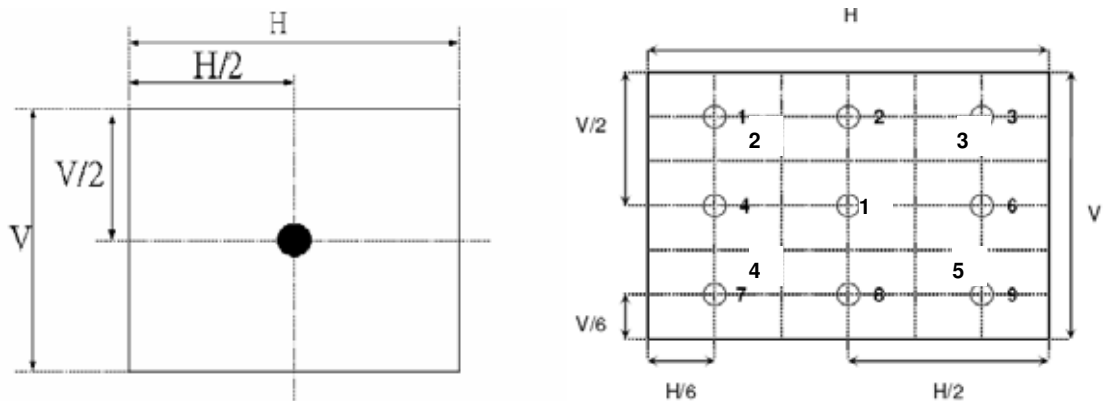

Fig.4-2 Optical measurement point
2. Surface luminance is luminance value at point 1 across the LCD surface 50cm from the surface with all pixels displaying white. From more information see Fig. 4-2. When $V_{\text{DDB}} = 24\text{V}$, $I_{\text{DDB}} = 7.5\text{ A}$. $L_{\text{WH}} = L_{\text{on1}}$, Where L_{on1} is the luminance with all pixels displaying white at center 1 location.